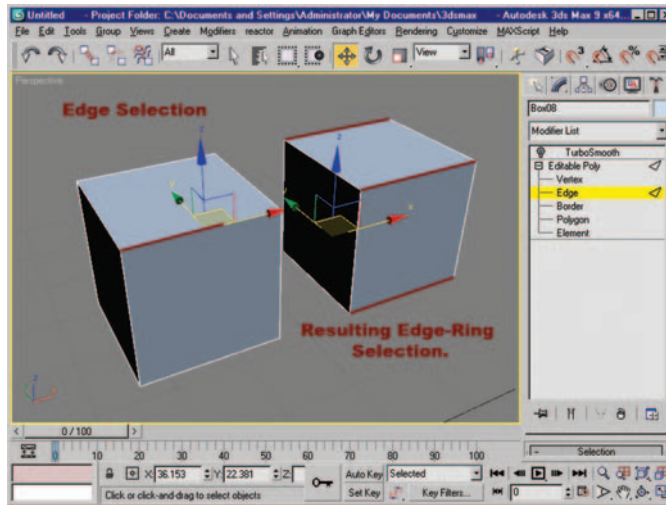

Figure 6.7 Edge selection and resulting edge-ring selection (Alt+R).
- Let's take the original box and clone it to a new object (shift-drag). Expand the Box level in the modifier stack, select an edge as shown in Figure 6.7, and hit Alt+R or click the Ring button to create a ring selection.